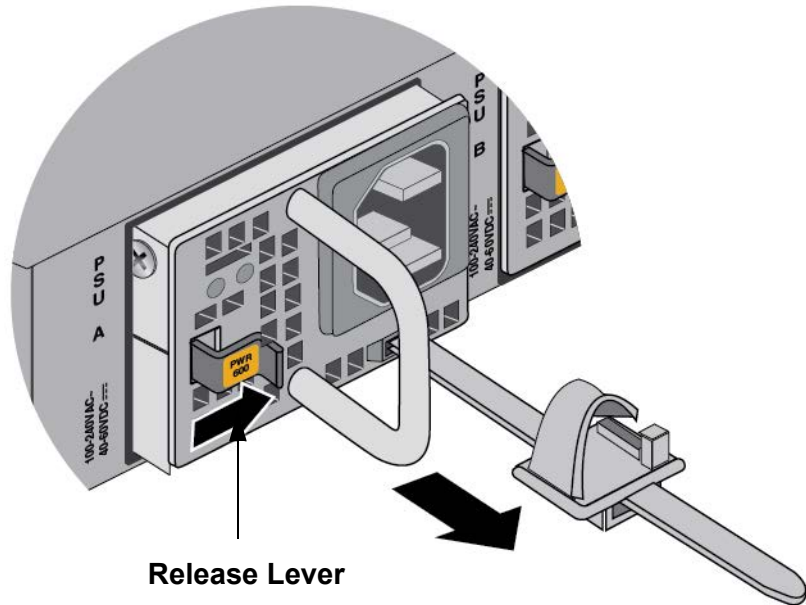

Figure 133. Removing the Power Supply
6. Press the release lever to the right and pull on the handle to release the power supply from the internal connector in the switch. Refer to Figure 133 on page 205.